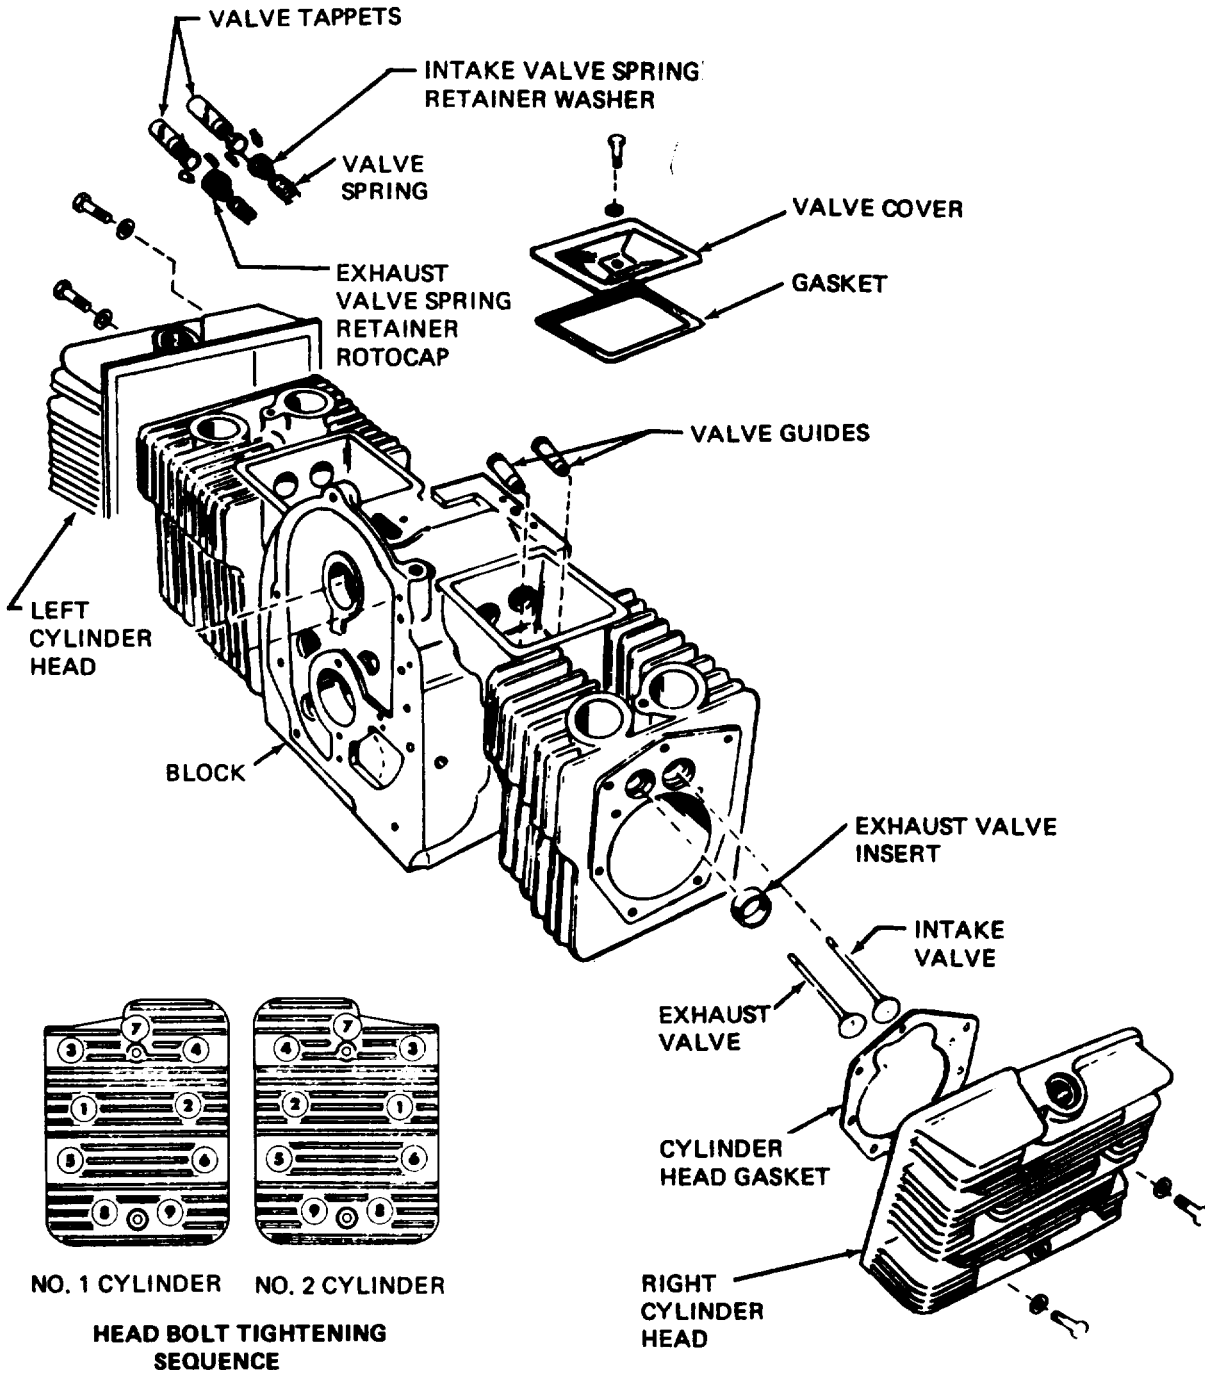

Figure 5-44. Cylinder Heads and Valves
- a. Cylinder Heads. The cylinder head bolts should be tightened in the sequence indicated in figure 5-44 to a torque of 5 foot-pounds, then 10 foot-pounds, and so on until all are torqued to 29 to 31 foot-pounds.